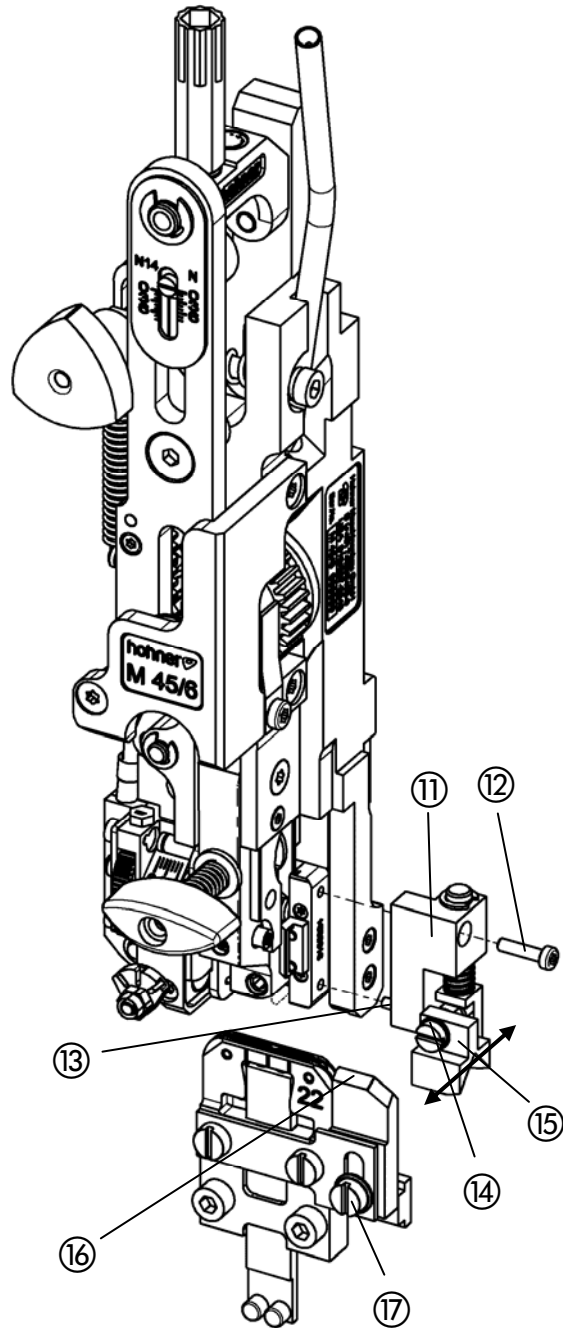

Fig. 17
- Fig. 17 -
- In order to install the holding down device ⑪, insert the guide pin into the borehole on the bender and tighten the fastening screw ⑫.